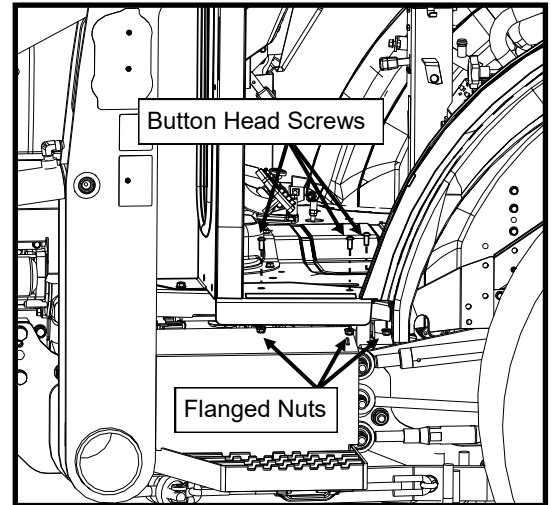

Figure 5.7: Side Frame to Floor Board Bolts
- 5.7 Fasten the side frame to the floor board (see Figure 5.7).